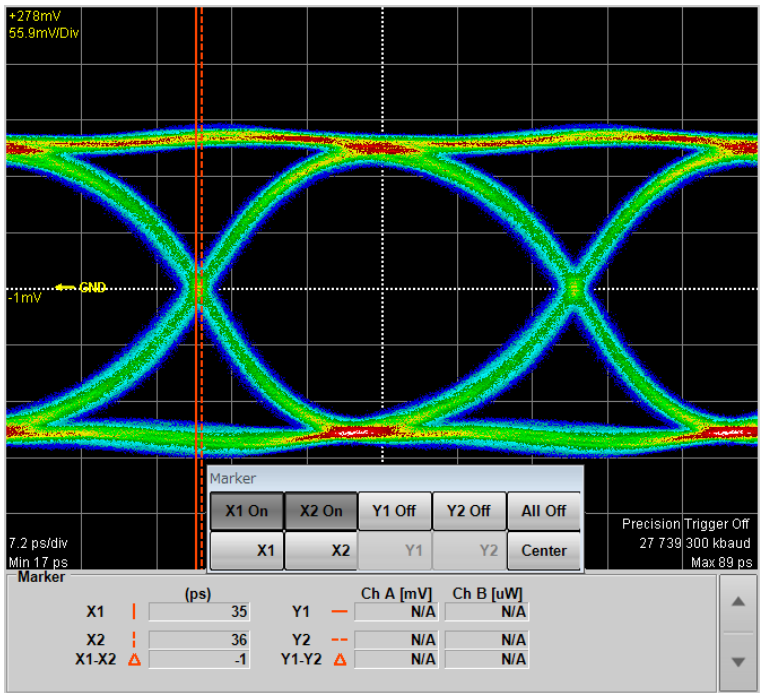

Figure 7.1.4-3 Measurement Example of Skew
8. Connect the **PPG1 Data Out** connector to the **Ch A In** connector of the sampling oscilloscope. (refer to Figure 7.1.4-2).